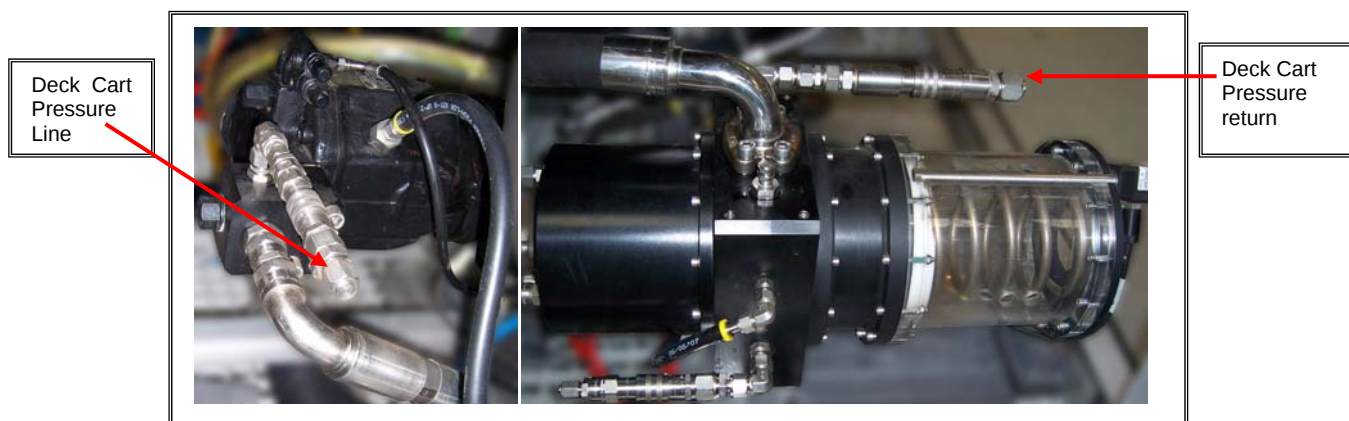

Figure 1 - Deck Hydraulic Unit, ROV connection points
4. **Hydraulic Circuit:** Connect the deck hydraulic power unit to the appropriate connection points on the ROV. See Figure 1 over leaf.